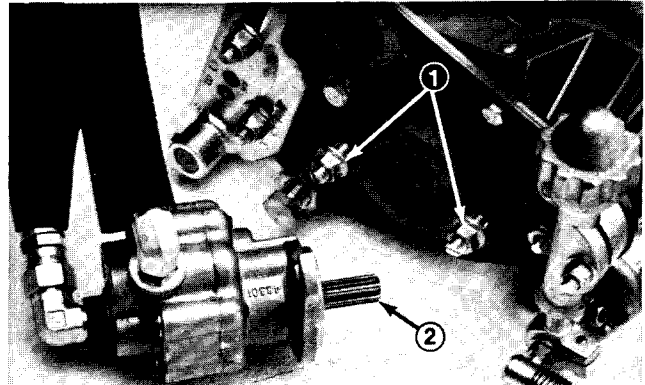

Figure 16
2. Loosen motor mount nuts (Fig. 16).